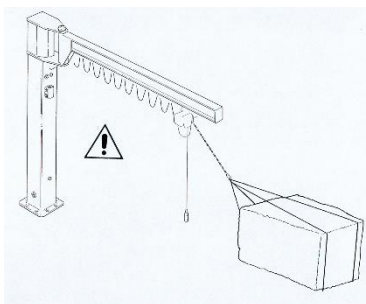

fig.62
- **During lifting manoeuvres** the operator must avoid resting the hook on the ground or on loads to be lifted, to avoid free oscillation of the chain. The operator must absolutely avoid making skew falls with the chain, which are always dangerous and difficult to control (fig.62)